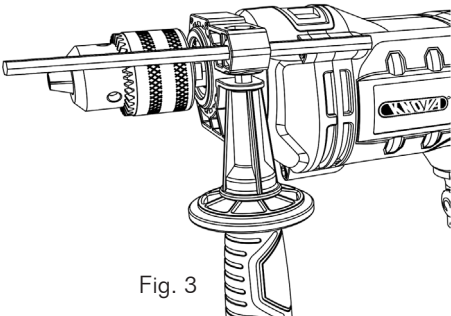

Fig. 3
- The depth gauge helps keep an accurate depth when drilling holes to a set depth. Add the depth gauge and tighten the handle to secure them in place. (See fig.3)